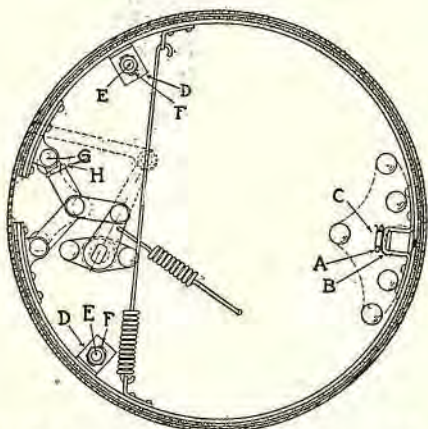

Fig. 18. Internal "toggle joint actuated" type of brake as used on the Columbia rear axles.
As an example of adjusting clearance in the "toggle"-acting type of internal band brake, see Figs. 11 and 12, page 890. In order to make this adjustment, it is necessary to remove the rear wheels. Refer to page 890, and note the adjustments as there explained. See also, Fig. 18, p. 892.
Next, remove cotter pin (A) and lock (B) (Fig. 18). Put on the dummy drum, bringing the opening in the drum directly over adjusting screw (C); turn adjusting screw (C) until the clearance between the brake lining and the drum at this point does not exceed $1/32''$, or the least possible amount obtainable, so that the drum will not rub at any point when revolved. Having obtained the proper clearance, replace lock (B) and cotter pin (A).